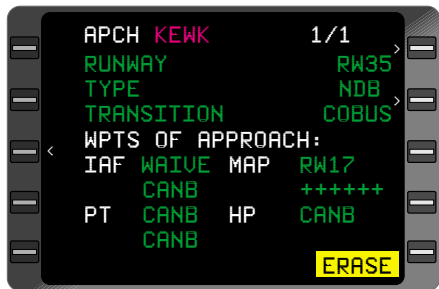

Figure 3-59
3. Line Select Key - DEPRESS to position cursor over **ERASE?** (Figure 3-59)